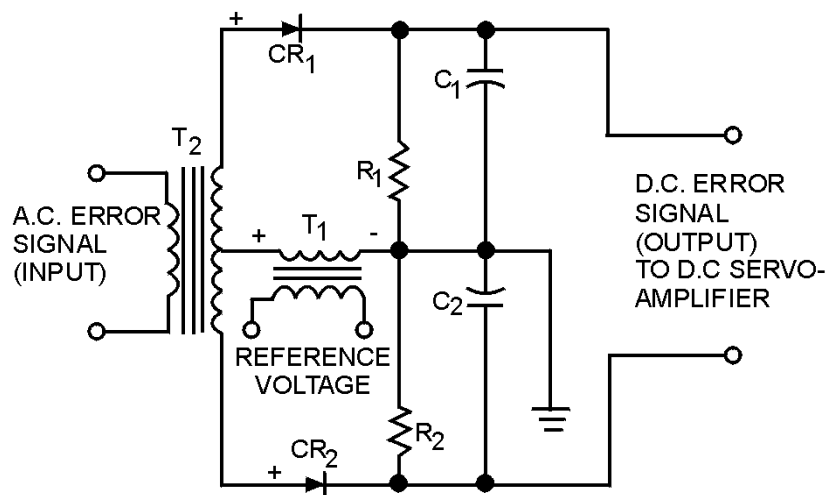

Figure 2-18.—Diode demodulator.
One example of a servo demodulator is the DIODE DEMODULATOR, sometimes called a phase detector, shown in figure 2-18. This circuit is used in servo systems because it not only converts ac to dc, but it is also able to distinguish the phase of the ac signal by comparing it to a reference voltage. Do not confuse this circuit with other phase detector circuits, such as those used in radar or communications systems. This demodulator (phase detector) distinguishes signals that are either in phase or 180° out of phase. For this reason this circuit is useful in servo systems where the ac output from the error detector (CT) is either in phase with the reference signal or 180° out of phase. Whatever type of error detector is used in the servo system, the reference voltage to the error detector and to the demodulator must be IN PHASE with each other for the demodulator to do its job.
As shown in figure 2-18, the anodes of the two diodes are supplied with the same reference voltage.